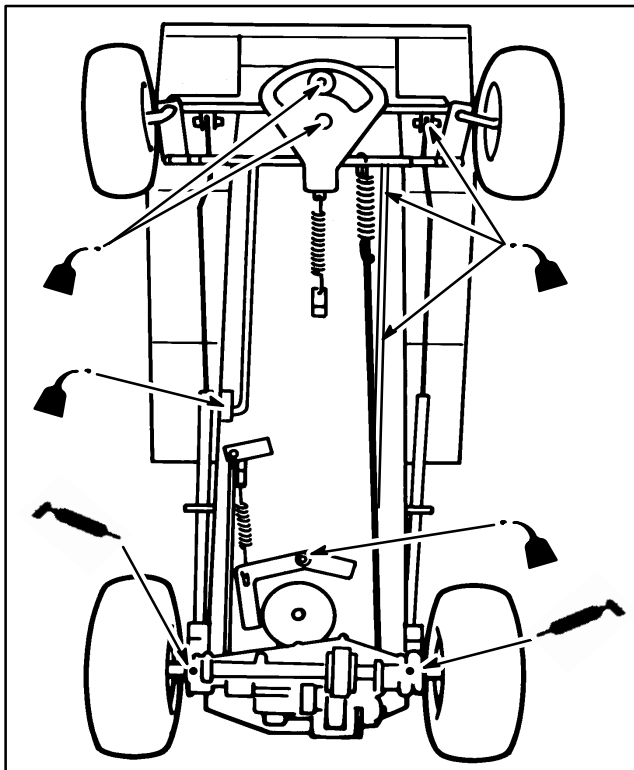

Figure 21
2. Grease rear axles with one to two pumps of No. 2 general purpose grease. The zerks are located just inside of the rear tires on the bottom of the transaxle (Fig. 21).
3. Oil pivot points of steering, drive, brake, clutch, and deck engagement linkage with light oil (Fig. 21). Wipe up any excess oil.